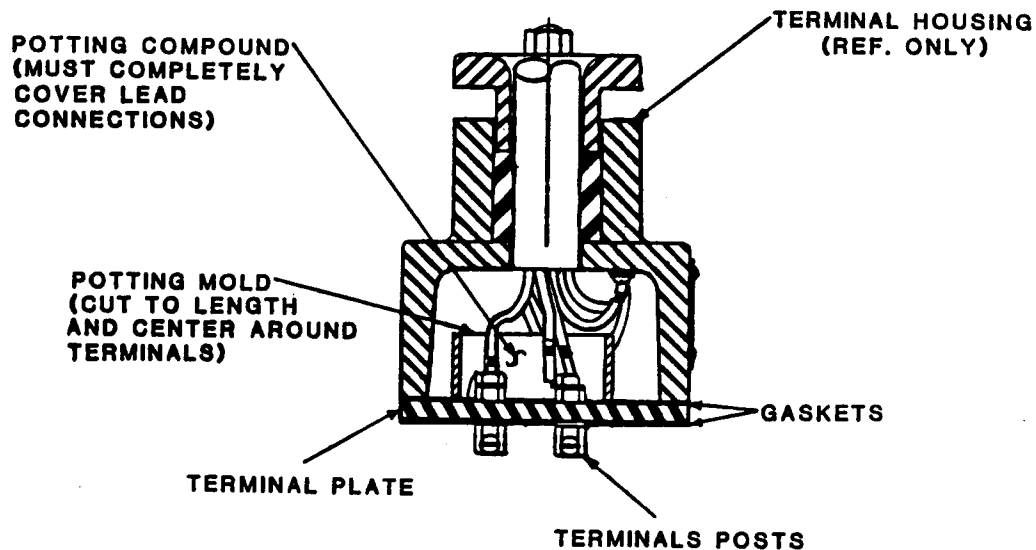

Figure 6. Potting Power Cable Leads In Terminal Housing
When shipped from the factory, the cable leads and terminals were encapsulated in heat-shrink tubing (44) and bonded to the terminal plate (47) with hot-melt adhesive to provide a water-tight seal. These materials are included in an optional repair kit listed in the parts list; however, since a glue gun with the required temperature range is not generally available in the field, it is recommended that a repotting kit available from Gorman-Rupp (see optional equipment in parts list) or a commercially available kit (Products Research Corp., part no. PR-1201-Q Class 1 potting compound, or equivalent) be used to reseat the connections. See Figure 6, and the following instructions.
Trim the potting mold so it is just long enough to cover the terminal post studs (see Figure 6). Slide the potting mold up over the three standard leads of the power cable (32).